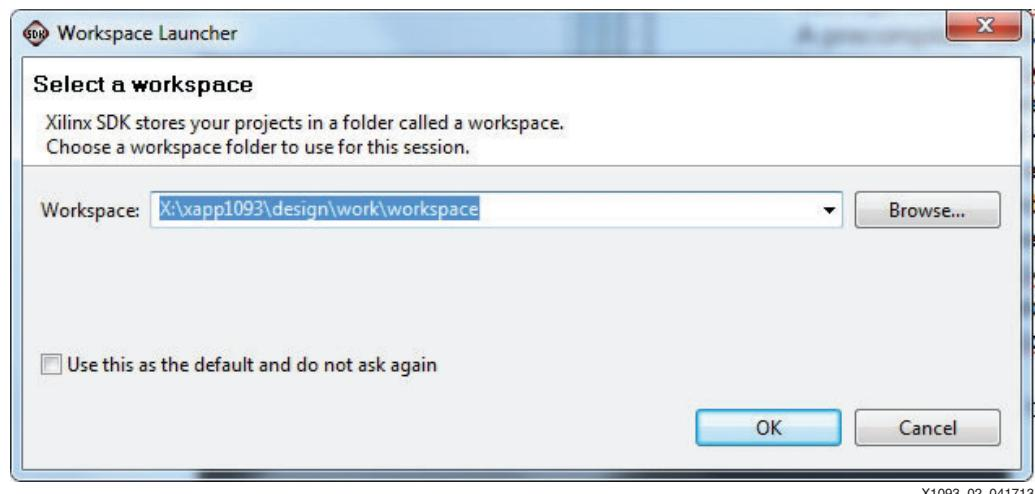

Figure 2: Select Workspace Directory
7. Add `\Workspace` to the end of the selection, as shown in Figure 2.